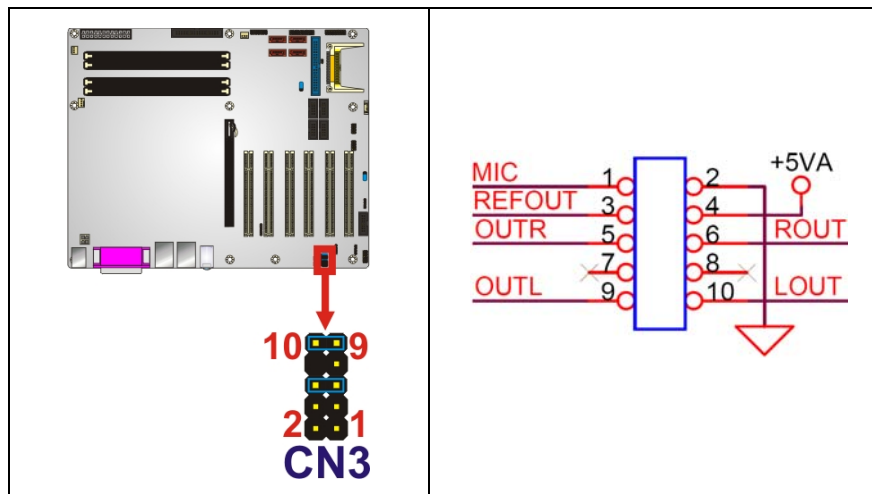

Figure 4-11: Front Panel Connector Pinout Locations
- CN Location:** See Figure 4-11